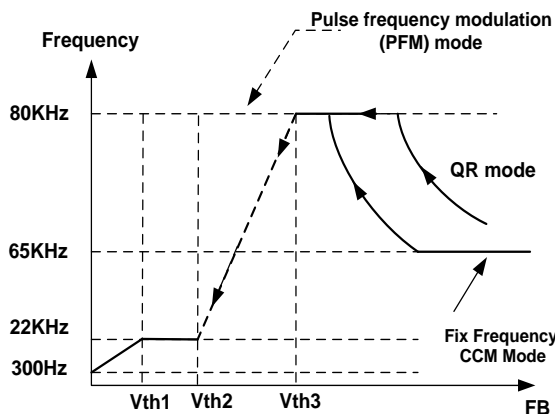

Figure 2 Multi-mode operation diagram
OB2578T is an excellent integrated multi-mode (see Figure 2) PWM controller optimized for off-line middle power AC/DC applications. It operates in continuous conduction mode (CCM) and quasi-resonant mode (QR) to provide high efficiency with primary side sensing and regulation thus provides cost effective solution for energy efficient power supplies.